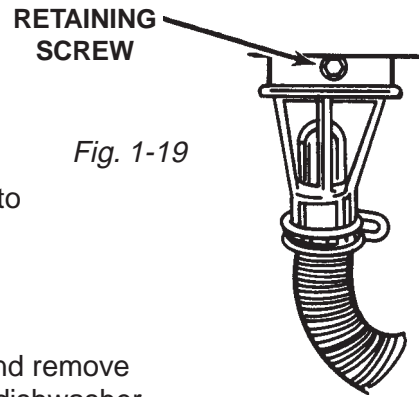

Fig. 1-19
3. Remove the Hex-head screw securing the check valve to the tub support. (*Fig. 1-19*)